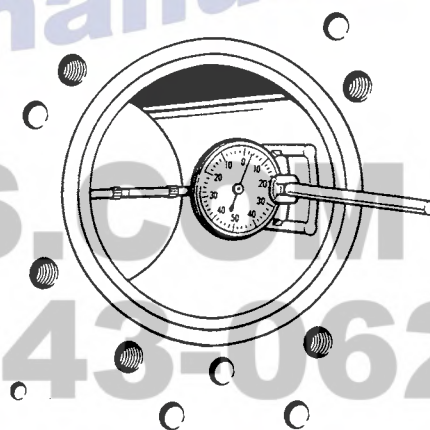

Figure 20
- Using an inside micrometer, cylinder bore gauge or a taper gauge, Figure 20, check the sleeve diameter just below the top ring location at its upper most travel and at several points down the length of the sleeve.